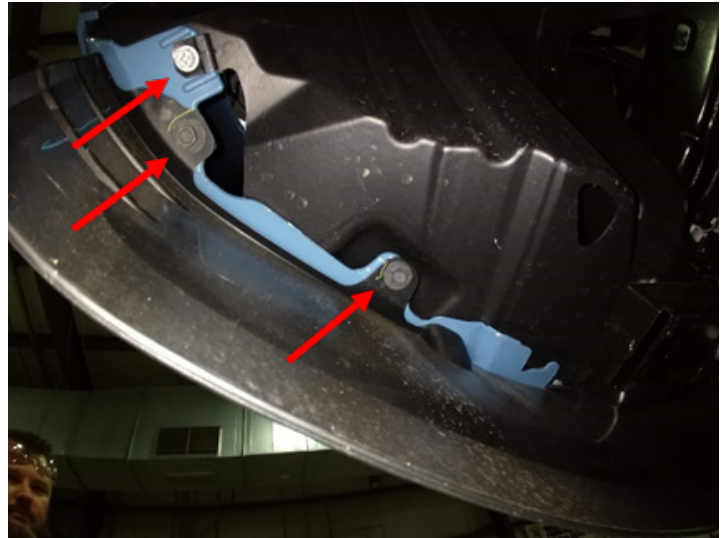

Figure 4
4. Using a 10mm socket wrench, remove the three (3) screws attaching the black plastic valance and inner fender to the lower portion of the bumper cover on the inside of each side of the vehicle. (Figure 4)